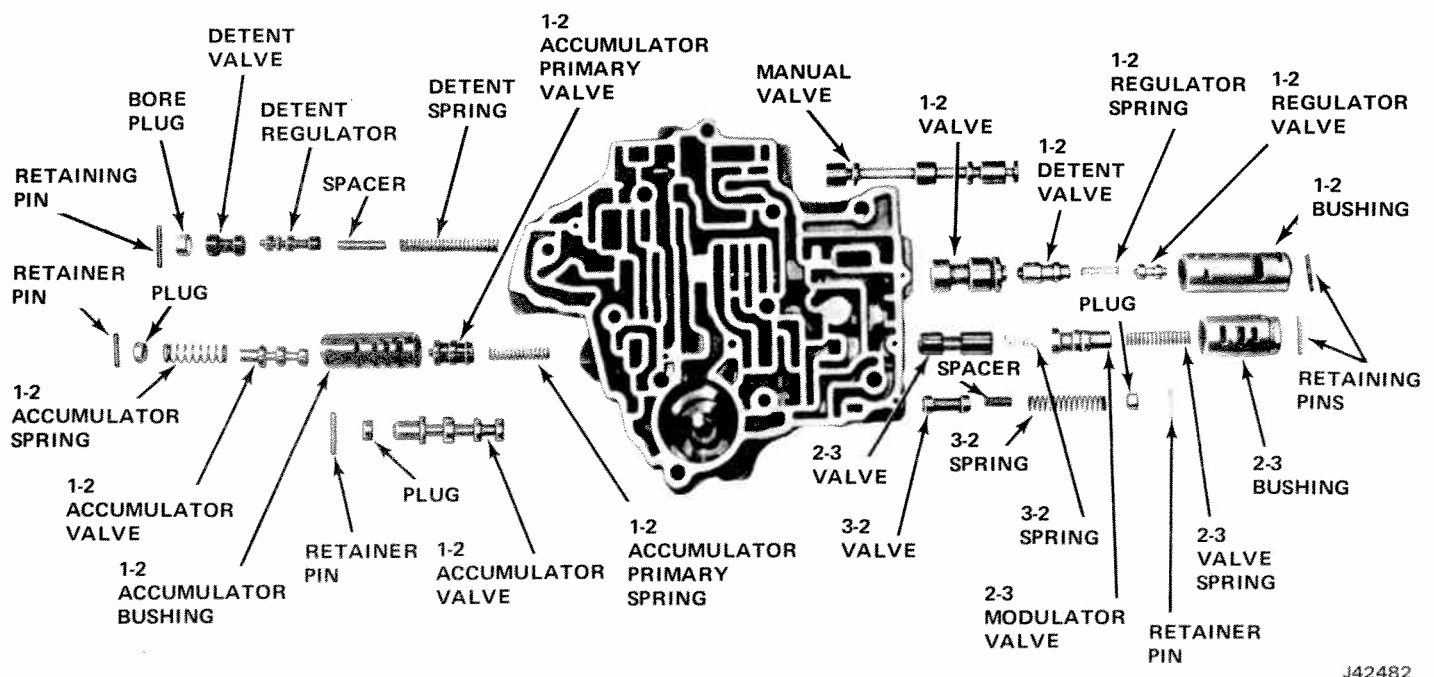
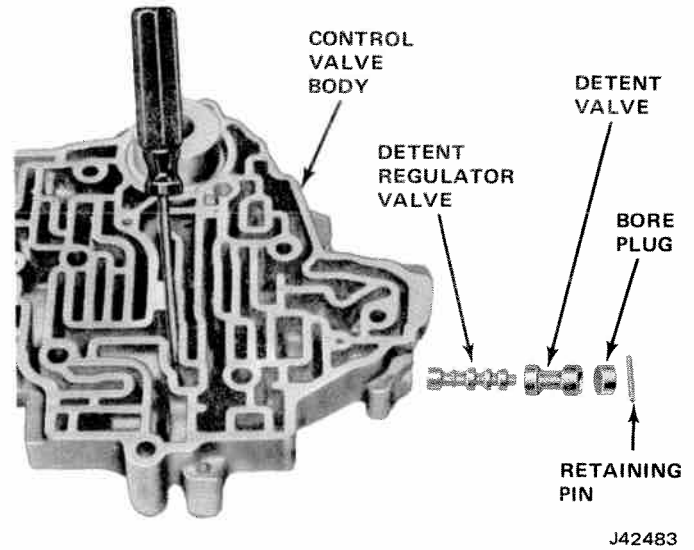

Fig. 7-52 Control Valve Assembly
Fig. 7-53 Detent and Regulator Valve
(5) At right side of valve assembly, adjacent to manual valve, remove retaining pin, bushing, 1-2 regulator valve, spring, 1-2 detent valve, and 1-2 shift valve from valve body. Refer to fig. 7-53.
(6) From next bore down, remove retaining pin, modulator valve bushing, 2-3 shift valve spring, 2-3 modulator valve, 3-2 intermediate spring, and 2-3 shift valve from valve body.
(7) From next bore down, remove retaining pin, bore plug, spring, spacer, and 3-2 valve from valve body.
(8) At other end of valve body, top bore, remove retaining pin, bore plug, detent valve, detent regulator valve, spring, and spacer from valve body.
(9) From the next bore down, remove the grooved retaining pin, bore plug, and the 1-2 accumulator valve. Refer to fig. 7-52.
(3) Install 1-2 accumulator valve (stem end out) in lower left bore.
(4) Install bore plug.
(5) Install grooved retaining pin from cast surface side of the valve body, with the grooves entering the pin hole last. Tap pin with hammer until flush with cast surface.
(6) Into next bore up, insert detent spring and spacer. Compress spring, then retain spring and spacer with small screwdriver (fig. 7-53). Insert detent regulator valve, wide land first, then detent valve, narrow land first.
(8) Install bore plug (hole out).
(9) Pressing plug inward to compress spring, secure plug in valve body with retaining pin, then withdraw screwdriver from valve body.
(10) In lower right hand bore of valve body, insert 3-2 valve, 3-2 valve spring, spacer, and bore plug (hole out). Refer to figure 7-52.
(11) Press plug into valve body to compress spring, then secure plug in body with retaining pin.
(12) Into next bore of valve body, insert 2-3 shift valve (stem end out) and 3-2 intermediate spring.
(13) Install 2-3 modulator valve in bushing and insert both parts into valve body bore.
(14) Insert 2-3 shift valve spring into valve body, compress, then secure with retaining pin.
(15) Into next bore of valve body insert 1-2 shift valves (stem end out).
(16) Install 1-2 regulator valve, 1-2 regulator valve spring, and detent valve into bushing.
(17) Align spring in bore of detent valve; then insert parts into valve body bore.
(18) Press bushing into valve body to compress spring; then secure bushing in valve body with retaining pin.
(19) Install manual valve in valve body, with detent pin groove to the right.